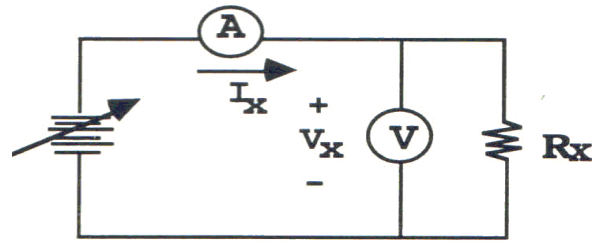

Fig. 1: Measuring Voltage and Current at the same time.
2. Set up the circuit of Fig. 1 with $R_x=2.7\text{ k}\Omega$. Take a habit of using the red terminal/wires for the positive voltage. This will help you to track down connection errors in more complicated circuits.
Table 1: Measurements and Computation using Fig. 1
9. Evaluate and compare the errors for the two methods (the corrected value from Fig. 1 and ohmmeter reading),
- a) Give another configuration of setting up the voltmeter and ammeter to measure the voltages and currents. (Hint: it is just a simple variation of Fig.1)
- c) Which one (the proposed and the Fig.1 configurations) is more appropriate for measuring big resistance values and for small resistance values? Explain in terms of the loading effects of the meters. (Hint: you can assume that voltmeter usually has a higher internal resistance than the ammeter.)